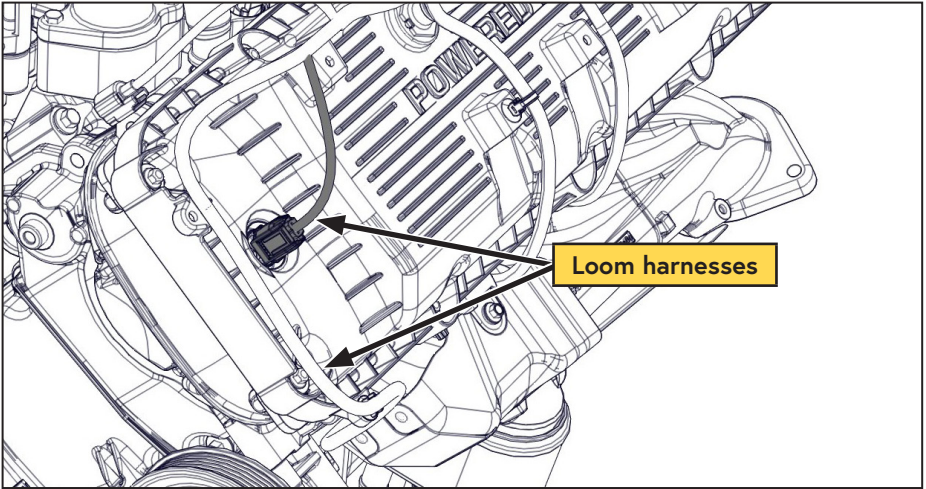

Figure 15 — Disconnect sensor
- Disconnect the sensor in the valve cover (Figure 15).